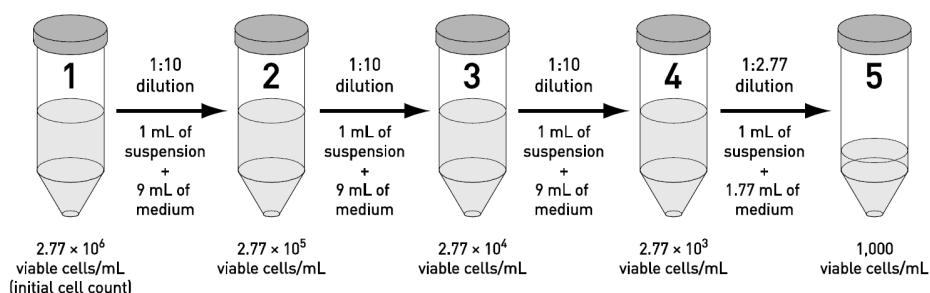

Figure 1 Example of serial dilution scheme of cells with initial count of 2.77×10^6 viable cells/mL
5. Serially dilute the cells to a final concentration of ~1,000 viable cells/mL using cloning medium (as shown in Figure 1).